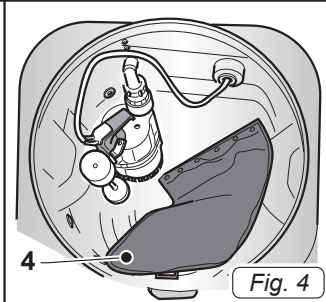

Fig. 4
- Check that there is a mesh filter (4 Fig. 4) in the tank.
- If the mesh filter (4 Fig. 4) is not present, install it as follows: